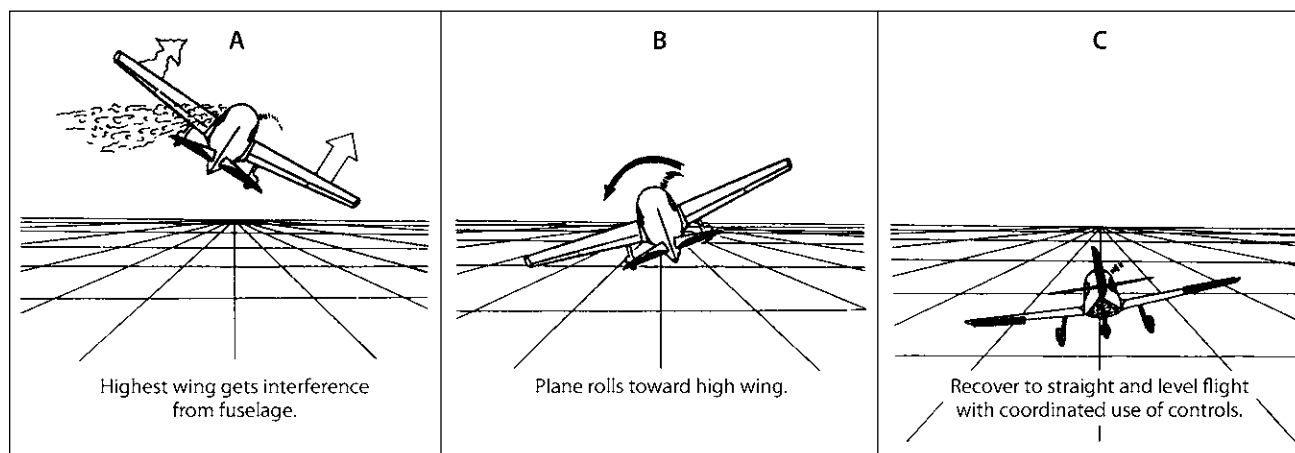
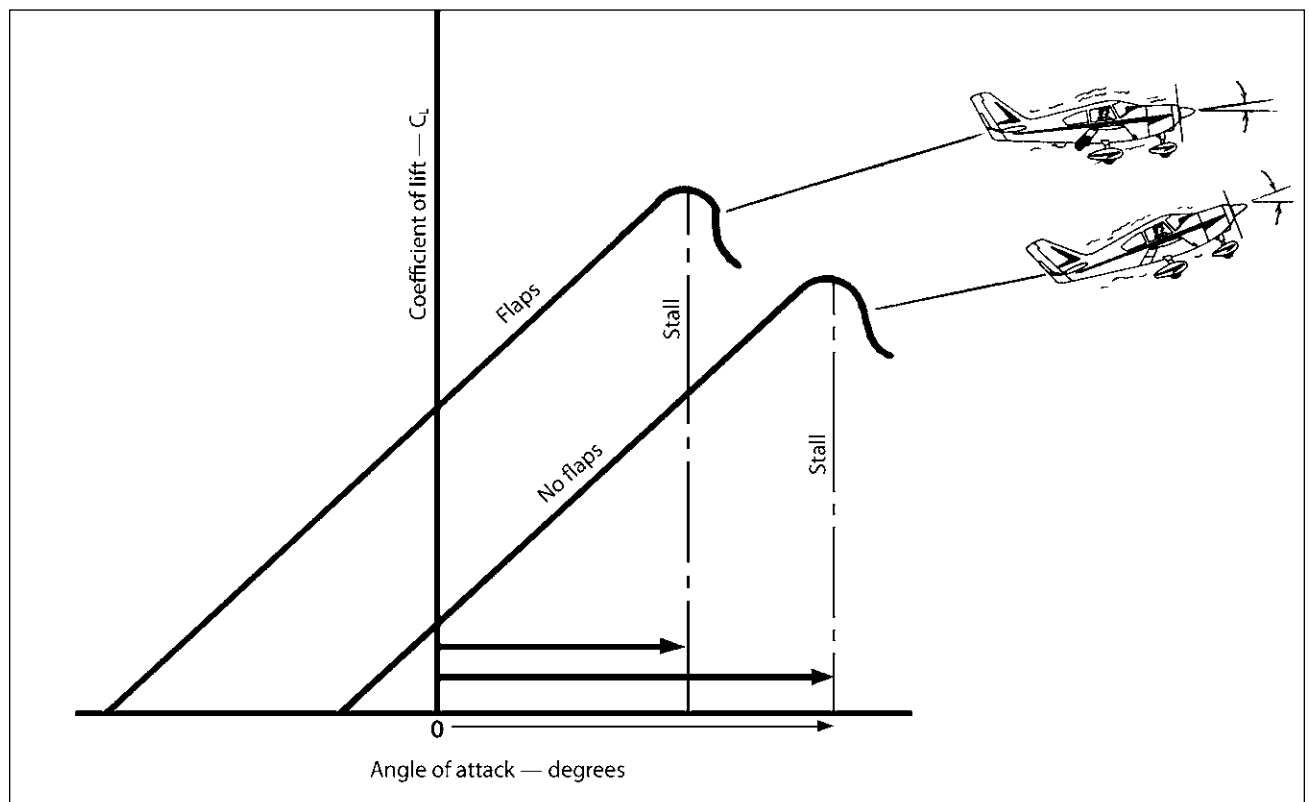

Figure 12-10. A rolling moment may be set up as the plane stalls.
Figure 12-12. Coefficient of lift and stall break attitudes for a fictitious airplane—clean and with landing flaps down.
As shown by Figure 12-10, the higher wing receives turbulence when a slip occurs, while the lower wing is comparatively free; consequently the high wing will stall first. When the break occurs, the airplane rolls in the direction of the high wing. In such a case the ball of the turn and slip (needle and ball) will indicate a slip just as the break occurs. The rigging of the wings of your particular airplane can affect its reaction. Also, if the plane is skidding at the stall break, the low or inside wing will be the first to go. If your plane has a needle and ball, you can note that the roll at the stall break is "away from the ball." (If the ball is to the right, the roll will be to the left; if the ball can be kept centered, any tendency to roll is minimized, but it still might roll in either direction, so be ready for it. The only problem is that with most airplanes, the rapid decay of rudder effectiveness as the stall is approached may not allow the pilot to keep the ball centered.)
When you are practicing these turning stalls, dual or solo, you might notice that the nose will usually drop at the stall break, an instant before the roll occurs. This follows the analysis shown by Figure 12-10.
Figure 12-12 shows the coefficient of lift versus angle of attack (also see Figure 2-8 and the discussion there) for a wing—clean and with landing flaps extended (20° in this case). Note that the maximum coefficient of lift is noticeably higher with flaps extended. Using, for example, the 0° angle of attack as a common starting point, you'd see that by slowly increasing the angle of attack, the flapped condition would reach its critical angle of attack (stall) well before the clean wing would have problems.
3. Hold the wheel fully back and keep that left rudder in. Sometimes it may be necessary to apply a burst of power to start the spin. The prop blast gives the rudder added effectiveness to yaw the plane. Because of the yaw created by your use of the rudder, the left wing "moves back" and has less relative lift. The right wing, being moved forward, has relatively higher lift. The result is a roll to the left, causing the left wing to increase its angle of attack (which was right at the stall, anyway), so the left wing has stalled and is now developing much less lift (and more drag) than the right wing. A spin can occur only if the airplane (or at least one wing) has passed the stall angle of attack and stays there. So the spin is created by a too-high angle of attack with yawing or rolling (the rolling can be induced by the yaw or other factors). For instance, look back to Figure 12-10. You're out practicing takeoff and departure stalls solo one day and are making a right-climbing turn entry as shown. The airplane rolls briskly to the left and you use full right aileron to stop the roll—before you release the back pressure. Also, maybe your feet were lazy and you didn't use rudder against the roll like you should have. The down-aileron acts as a flap and the left wing is suddenly shifted to the left-hand "flap" curve shown in Figure 12-12; in addition, the angle of attack on that down-moving wing is increasing. Things meet in the middle (at the stall) pretty fast, and the wing starts the autorotation part. You'll have to break it by closing the throttle, neutralizing the ailerons, using opposite rudder, and moving the wheel forward briskly. But let's get back to talking about a deliberate spin.